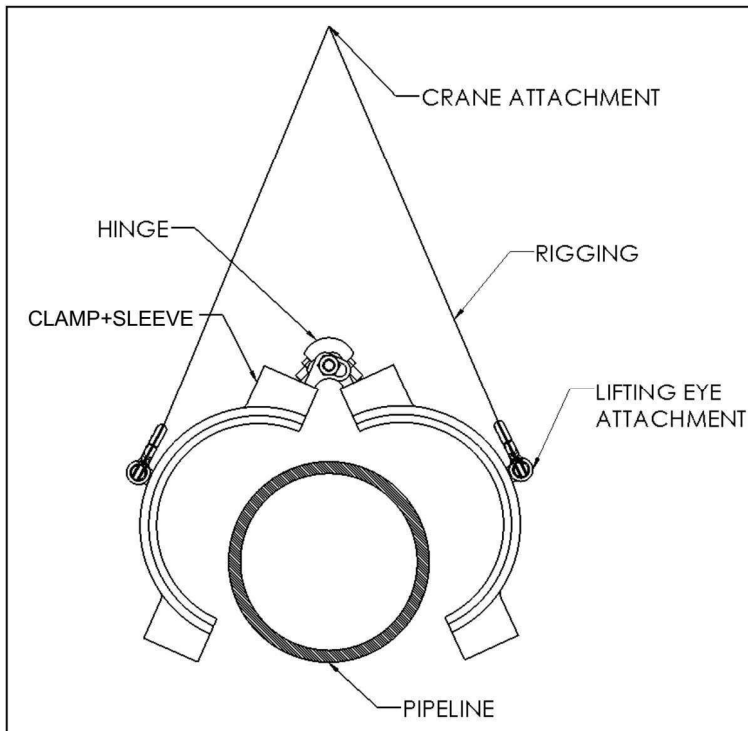

Figure 11
3. Attach properly sized rigging such as chains, cables, or straps to a single point crane attachment. The rigging should be sufficiently long enough that the rigging doesn't interfere with opening and closing of the fitting as shown in Figure 11.
4. Lift the fitting up from the single point crane attachment. The Clamp+Sleeve will open as shown in Figure 11.
5. Position the fitting over the pipeline and slowly lower the fitting onto the pipeline as shown in Figure 11. The inside of the fitting should come in contact with the pipeline, and the fitting will start to close as it is lowered. Some fittings may require some additional side force to close the fitting around the pipe. Always keep all body parts clear of the inside of the fitting as the fitting is being lowered onto the pipe. This is to ensure safety in the event the fitting slams shut rapidly.